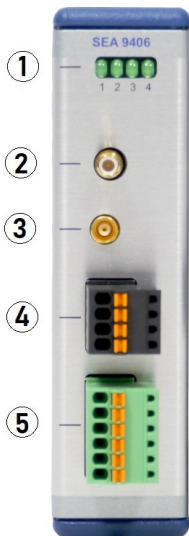

Fig. 1: Front Side
On the front side the module provides LEDs (1) to indicate the status of the module as well as sockets (2)–(5) to connect accessory, refer to Fig. 1.